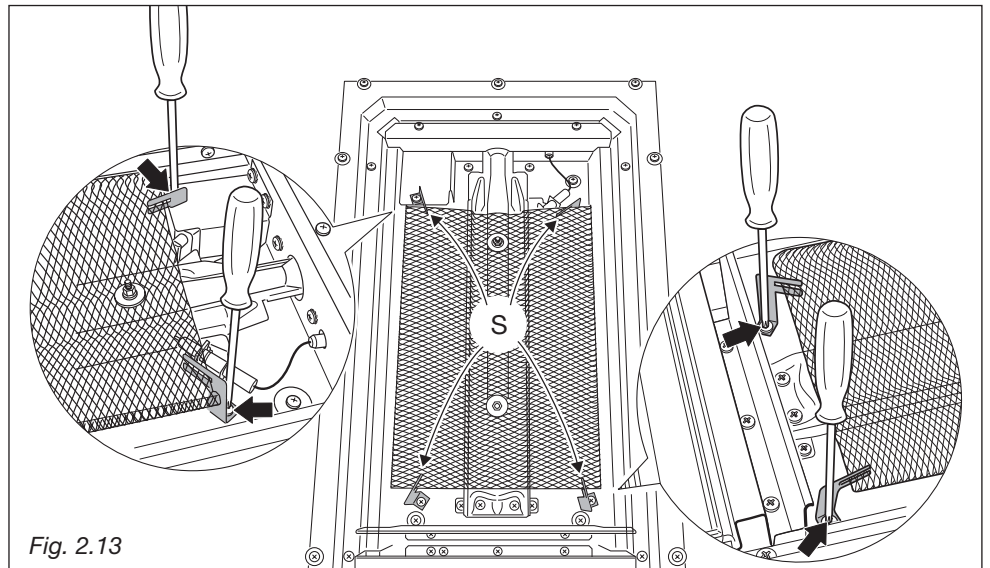

Fig. 2.13
- Unscrew the no. 4 (four) screws and remove the no. 4 (four) clips "S" (fig. 2.13).